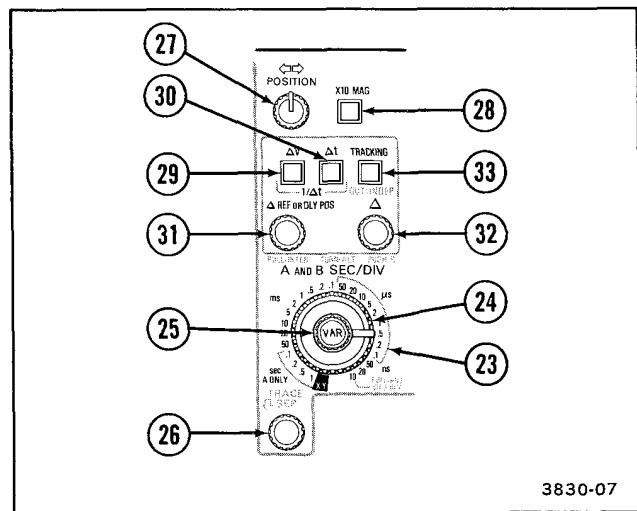

Figure 3-4. Horizontal and delta measurement controls.
Refer to Figure 3-4 for items 23 through 33.
- (23) **A SEC/DIV Switch**—Selects 25 calibrated A Sweep speeds from 1 s per division to 10 ns per division, or delay ranges from 10 s to 200 ns, in a 1-2-5 sequence. Extreme counterclockwise switch rotation selects the X-Y display mode. In X-Y, the signal applied to the CH 1 OR X input connector drives the horizontal deflection system.
- (24) **B SEC/DIV Switch**—Selects 21 calibrated B Sweep speeds from 50 ms per division to 10 ns per division in a 1-2-5 sequence. This switch also controls Horizontal Display Mode switching, as explained in the following descriptions.